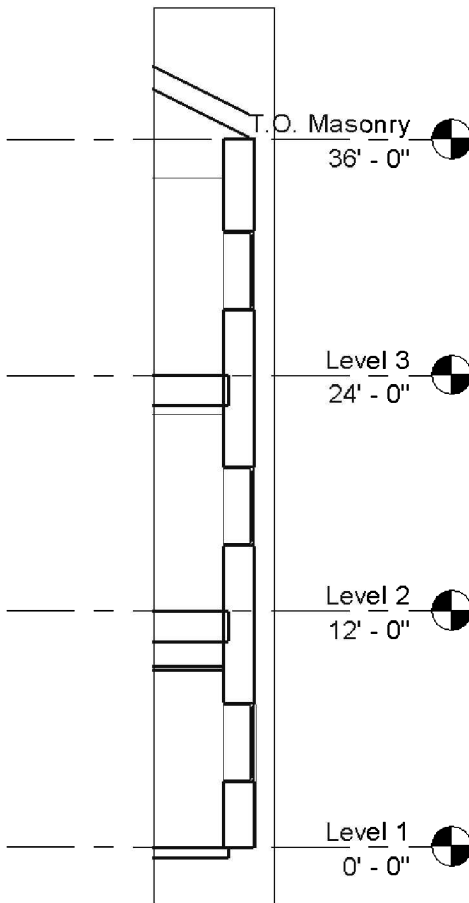

FIGURE 10-3.2 Callout of Cross Section 1
6. Double-click on the reference bubble portion of the *Callout* tag to open the **Callout of Cross Section 1** view (Figure 10-3.2).